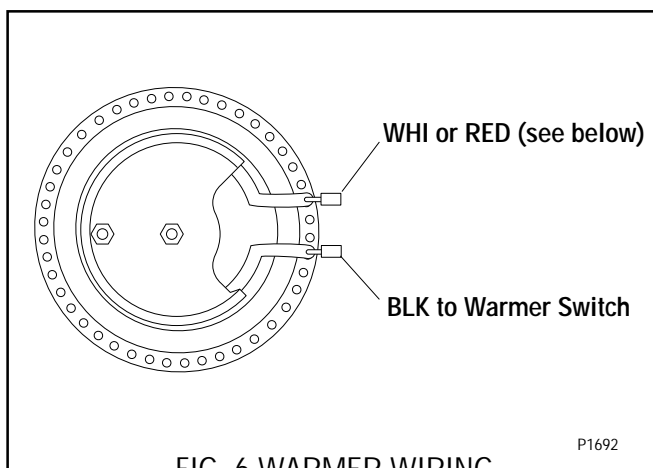

FIG. 6 WARMER WIRING
4. Refer to FIG. 6 when reconnecting the wires.